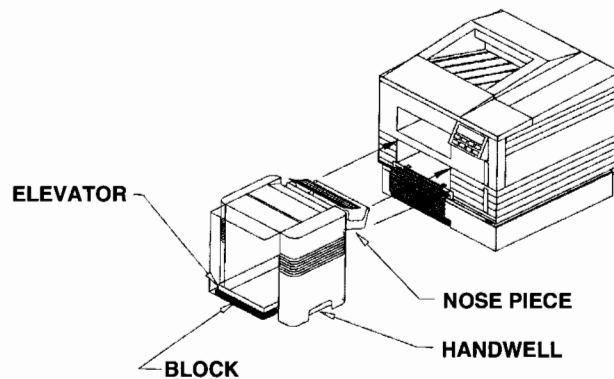

Figure 2-5. Guiding the Paper Feeder's Nosepiece into the printer.
2. Grasp the Paper Feeder by the hand wells located at the base of each side of the unit. Align the Paper Feeder's "nosepiece" with the printer's lower paper tray opening and gently slide the Paper Feeder forward until it is firmly seated into the printer, as shown in figure 2-5 and 2-6.